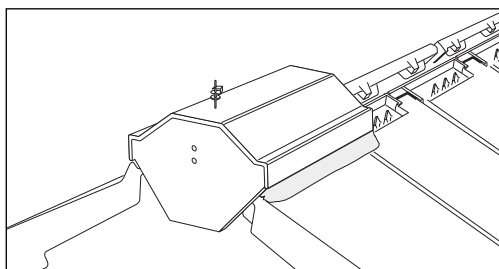

Fig 62 – Passing ridge wire through ridge unit
- 5 Pull the wire tight so that the loop closes tightly around the batten, and feed the end up through the hole in the ridge tile (Fig 62).